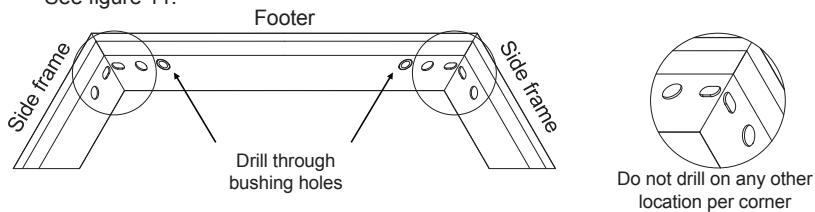

Figure 11 Drilling pilot holes at Footer end
**NOTE:** Make sure to drill through the holes with bushings only. See figure 11.